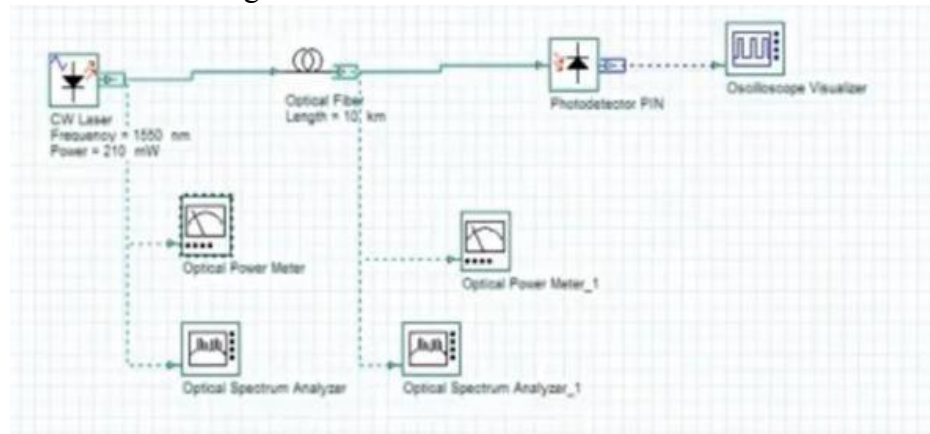

Fig. 4: Layout to demonstrate attenuation effect
- Connect the optical components as represented in the block diagram Fig. 4.